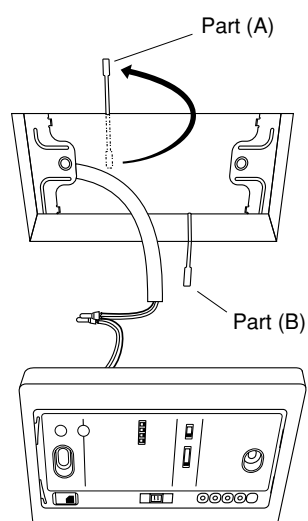

Fig. 11-27
4. Use bracket parts (A) and (B) to securely grip the ceiling material. (Fig. 11-27)